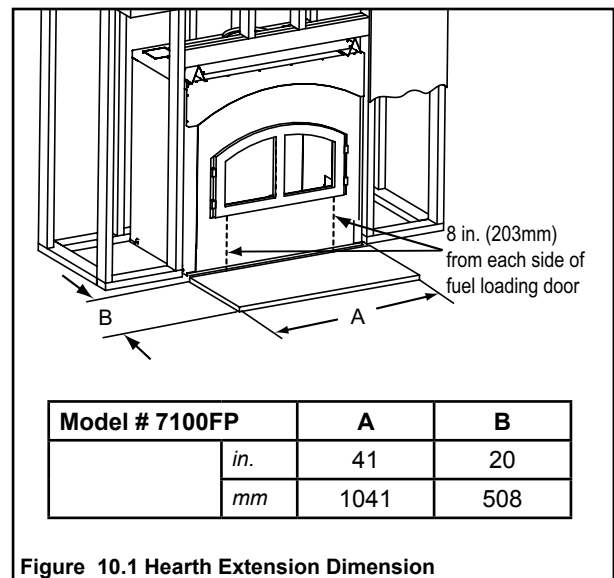
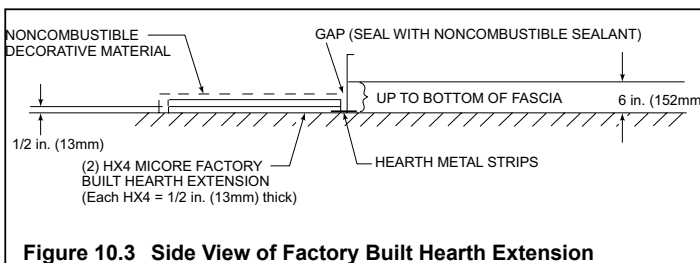

Figure 10.1 Hearth Extension Dimension
Figure 10.3 Side View of Factory Built Hearth Extension
- Refer to Figure 10.1 for minimum dimensions.
The construction of, and materials used for a hearth extension are shown in Figures 10.1 and 10.3. A hearth extension of this construction may be covered with any non-combustible decorative material and may have a maximum thickness as per Figure 10.2 Seal gaps between the hearth extension and the front of the fireplace with a bead of non-combustible sealant.
Non-combustible flooring 20 in. (508mm) in front of and 8 in. (203mm) to either side of the fuel opening with a minimum thickness of 1 in. (25mm) and ("k" value = 0.49). See Figure 10.1 on page 55 and Figures 10.3, 10.4, and 10.5.